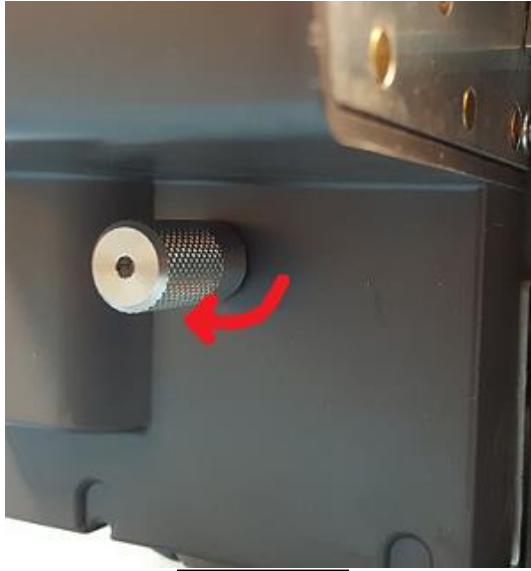

Figure 3c
5. After mounting the cutter, turn the thumbscrew a few turns clockwise to lock the cutter into place. *See Figure 3c*